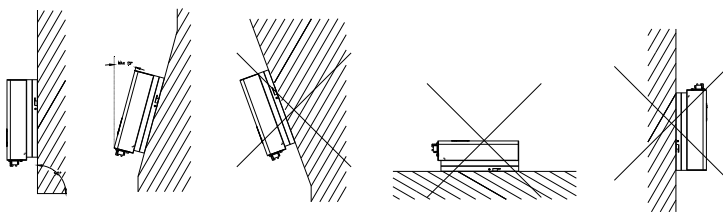

Figure 4.1 Mounting Method
Please mount the inverter rightly as shown in Figure4.1 below.
- ① The equipment employs natural convection cooling, and it can be installed indoor or outdoor.
- ② Please install the equipment under the guidance of Figure4.1. Vertical installation on floor level is recommended. Mount vertically or tilted backwards by max. 15°. Never install the inverter tilted forward, sideways, horizontally or upside down.
- ③ Install the inverter at eye level for convenience when checking the LCD display and possible maintenance activities.
- ④ When mounting the inverter, please consider that disassembly for service work may be required.